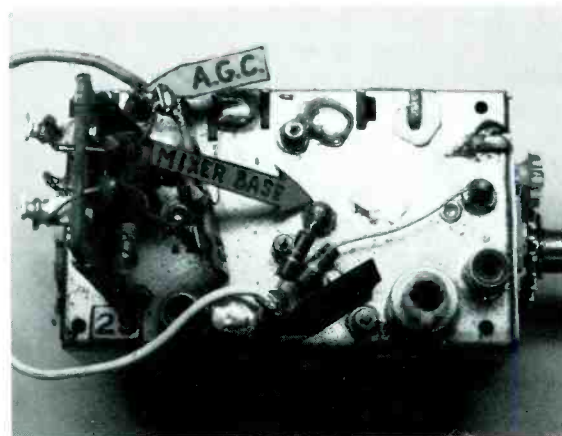

Fig. 3 Leads of mixer transistors often connect to feedthrough capacitors. Test signals can be injected there, and DC voltages measured.
Mixer base connections often are tied to feed-through capacitors, making them accessible from the outside, as shown in Figure 3.
Fig. 3 Analysis of square waves can show the approximate high-frequency response. Waveform (A) is the output of an audio generator (B&K Model E-310B); (B) an amplifier, whose response was only -.5 dB at the 9th harmonic and -.2 dB at the 50th, rounded two corners and made the rise and fall sides barely visible (in the original picture); (C) 9th harmonic was -.8 dB and 50th was -.7 dB; (D) 9th harmonic was -1.8 dB and 50th was -12 dB; and (E) 9th harmonic was -9 dB and 50th was -24 dB. The rising edge now resembles the classic capacitor-charge curve, and the falling side approaches the capacitor-discharge curve.
There is no universal agreement among audio experts about how many harmonics represent a satisfactory square wave. Perhaps the waveforms of Figure 3 will prove that a generator with sharp square